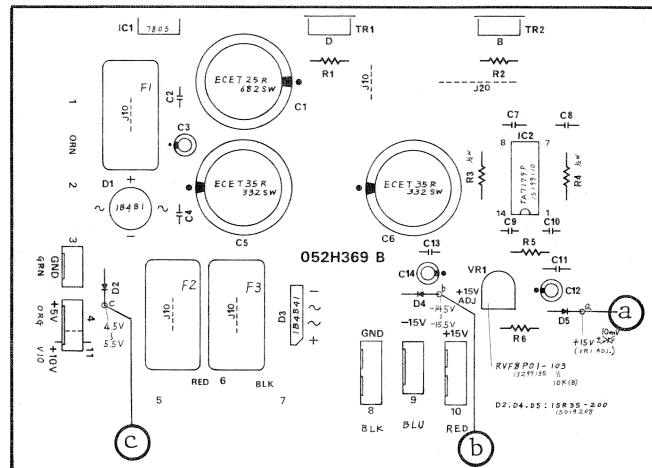

Fig. 24
- Check the voltage at "c". It should be  $+4.5V$  to  $+5.5V$ . Refer to Fig. 24.